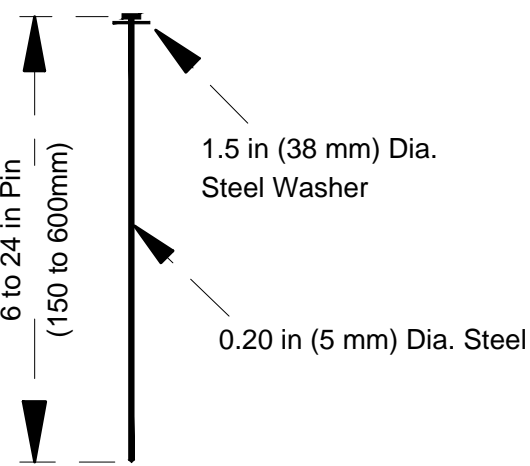

FIGURE 9: PIN DETAIL
- Metal pins should be at least 0.20 in (5 mm) diameter steel with a 1 1/2 in (38 mm) steel washer at the head of the pin (see Figure 9). Metal pins should be driven flush to the soil surface. Pins should be between 6-24 in (150-600 mm) long and have sufficient ground penetration to resist pullout. Longer pins may be required for looser soils. Heavier metal stakes may be required in rocky soils. Depending on soil pH and design life of the pin, galvanized or stainless steel pins may be required. Consult project plans and/or specifications for tie down device details.